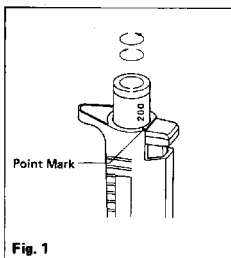

Fig. 1
1. Select the desired volume on Model 5000V by turning the thumb knob until the desired volume figures on the thumb knob correspond to the arrow mark printed on the top of the pipette handle. (Fig. 1)